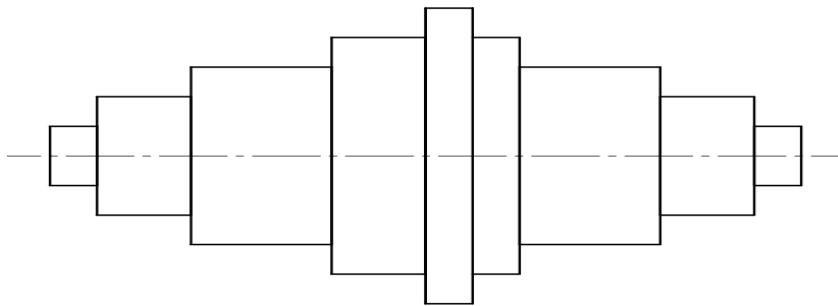

Fig.5
- Copy Fig. 5 to 1:1 Scale and dimension it using Unidirectional system with Parallel dimensioning